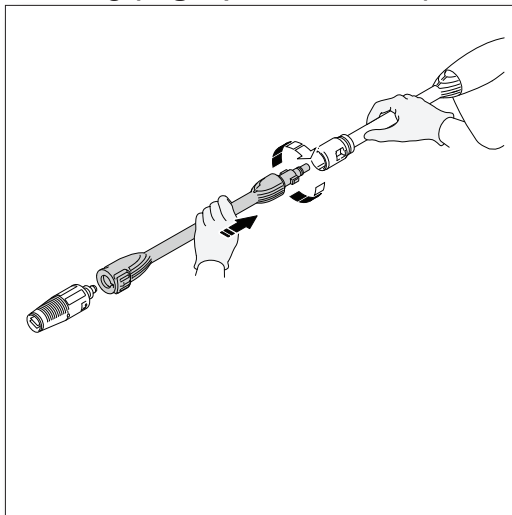

Fig. 6
- Connect extension to gun first by pushing together and turning clockwise simultaneously. Twist collar clockwise to lock in place (**Fig. 6**). Connect nozzles or detergent bottle by pushing together and twisting (**Fig. 6**). To remove push together and turn counter clockwise.